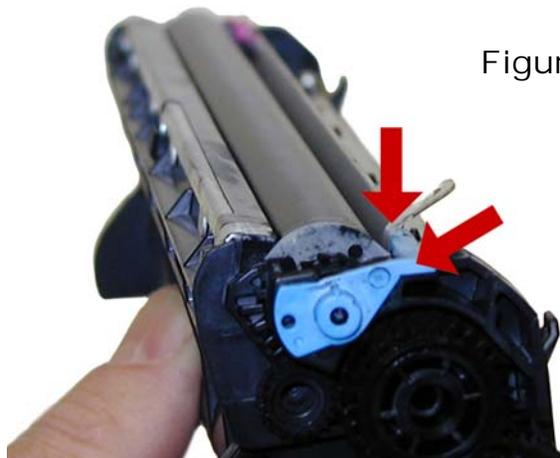

Figure 16
16) Install the blue spacer on to the left side of the developer roller. The clear plastic band should be over the arm of the bushing. See **Figure 16**